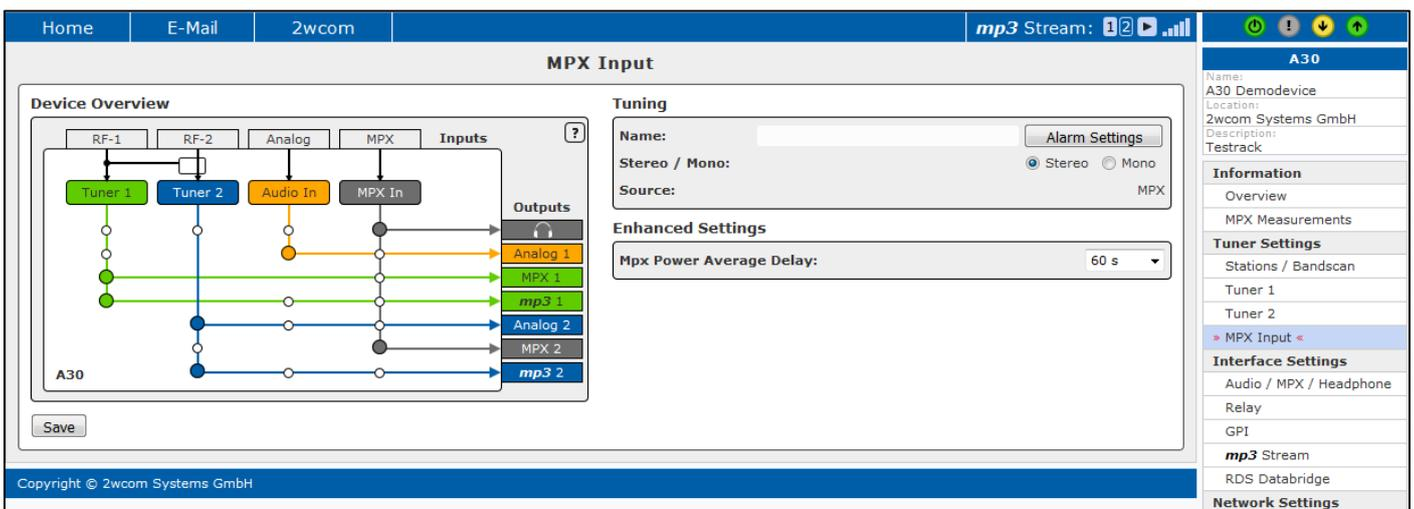

Fig. 39: Overview – MPX Input Status
2. Under **System Settings**→**Alarm** click the "Alarm Settings" button in the "MPX Input Alarm Settings" block (see Fig. 37) or under **Tuner Settings**→**MPX Input** (see Fig. 39):